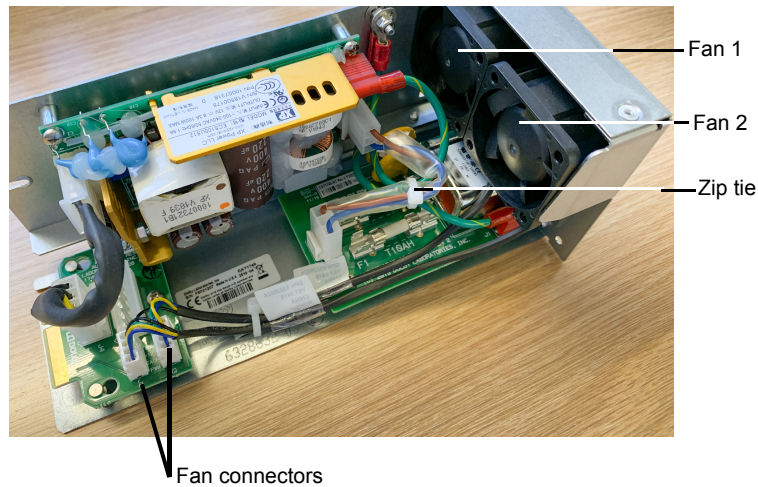

Figure 5-9 Fans and Connectors
11. Locate and cut the zip tie around the fan cables (see zip tie in Figure 5-9).